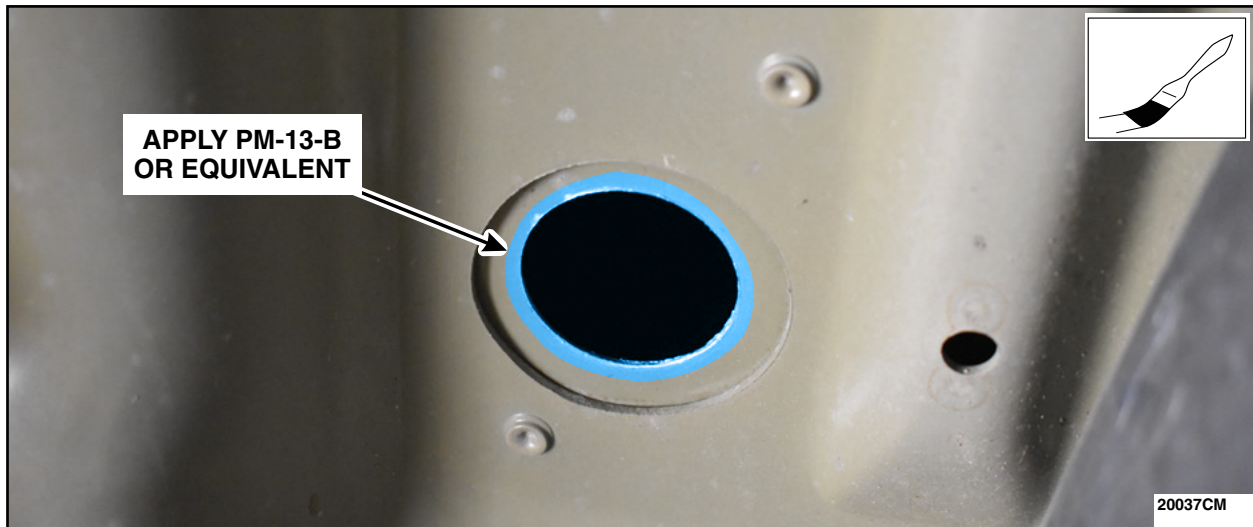

FIGURE 95
86. Following the directions on the can, liberally apply some PM-13-B Anti Corrosion Coating or equivalent to the edge and surface around the hole drilled into the floorboard. Allow to fully dry. See Figure 95.